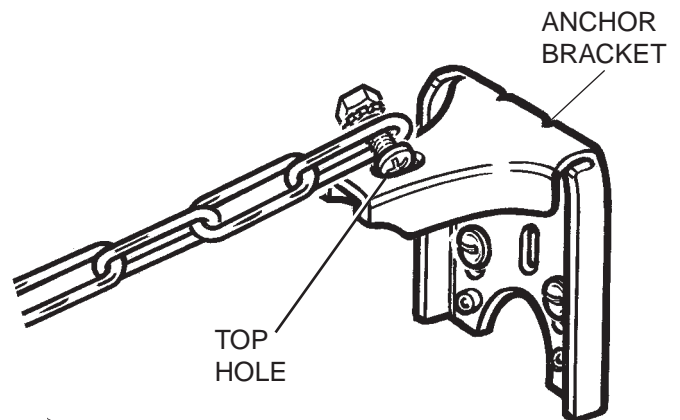

Figure 6 – securing the cooker
2. Insert the screwhead into the top hole of the anchor bracket by tilting it sideways so that it is at an angle to the top hole when it is inserted. (Figure 6)